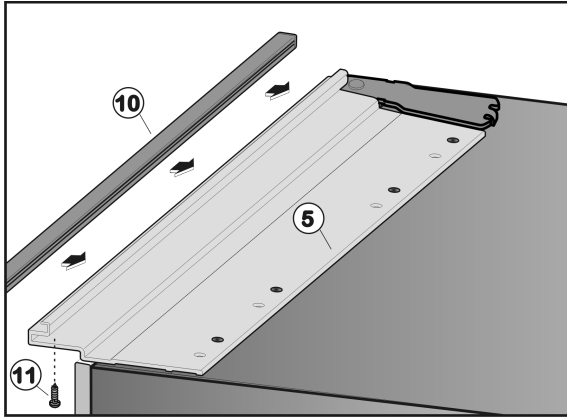

Fig. 34
- Position end strip *Fig. 34 (10)* over the installation contour *Fig. 34 (5)* and align it such that the holes in ventilation grille and installation contour are above each other.
- Screw end strip *Fig. 34 (10)* to installation contour *Fig. 34 (5)* from below using three screws *Fig. 34 (11)*.